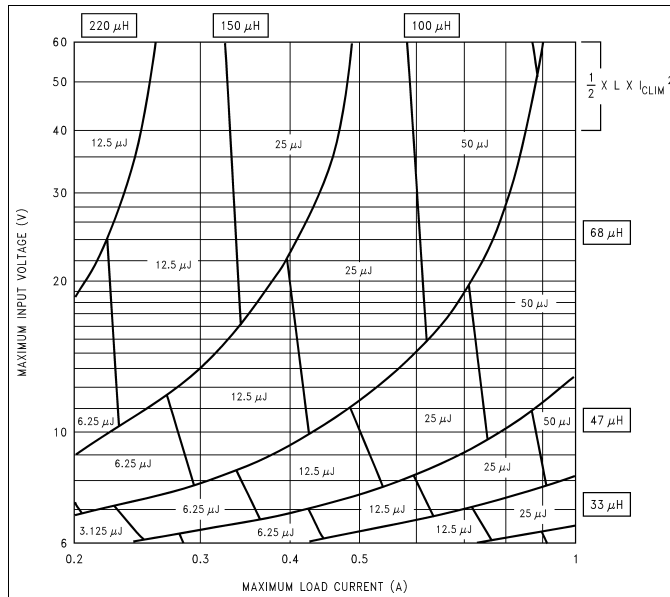
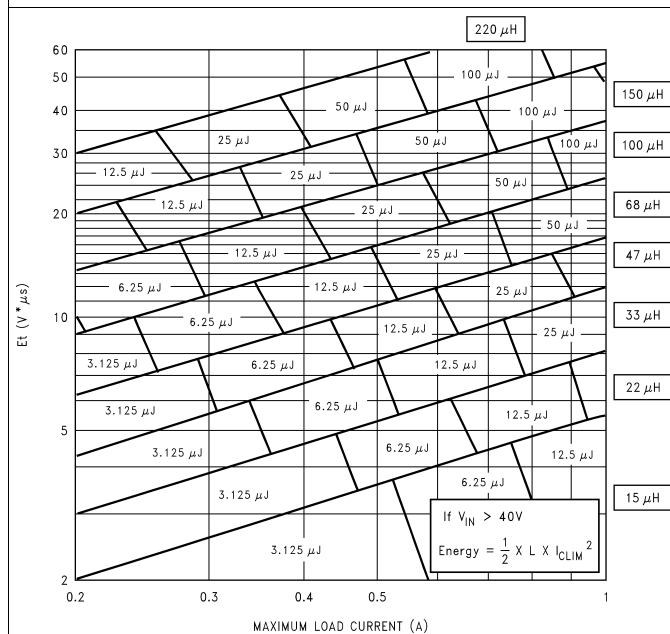

Figure 33. LM2590HV 3.3-V
Figure 35. LM2590HV Adjustable Voltage
For a quick-start, refer to the nomographs provided in Figure 33 to Figure 35. To widen the choices to a more general selection of available inductors, the nomographs provide the required inductance and also the energy in the core expressed in microjoules (μJ), as an alternative to just prescribing custom parts. The following points need to be highlighted:
5. Figure 35 shows the inductor selection curves for the Adjustable version. The y-axis is Et , in $V\mu\text{secs}$. It is the applied volts across the inductor during the ON time of the switch ($V_{\text{IN}} - V_{\text{SAT}} - V_{\text{OUT}}$) multiplied by the time for which the switch is on in μsecs . See Example 3.
1. Since input voltage is less than 40 V, a first pass inductor selection is based upon Inductance and rated max load current. We choose an inductor with the Inductance value indicated by the nomograph Figure 35 and a current rating equal to the maximum load. But we first need to calculate Et for the given application. The Duty cycle is Equation 5.
3. Therefore, looking at Figure 33, quick-select a 47- μ H, 2-A inductor (designed for 150 kHz operation) for this application.
4. Confirm that it is rated to handle 200 μ J (see Figure 35) by the procedure shown in AN-1197 Selecting Inductors for Buck Converters (SNVA038) and that the losses are acceptable. (If the DC Input voltage had been greater than 40 V we would need to consider e_{CLIM} as in Example 2). This completes the simplified inductor selection procedure. For more general applications and better optimization, refer to AN-1197 Selecting Inductors for Buck Converters (SNVA038).